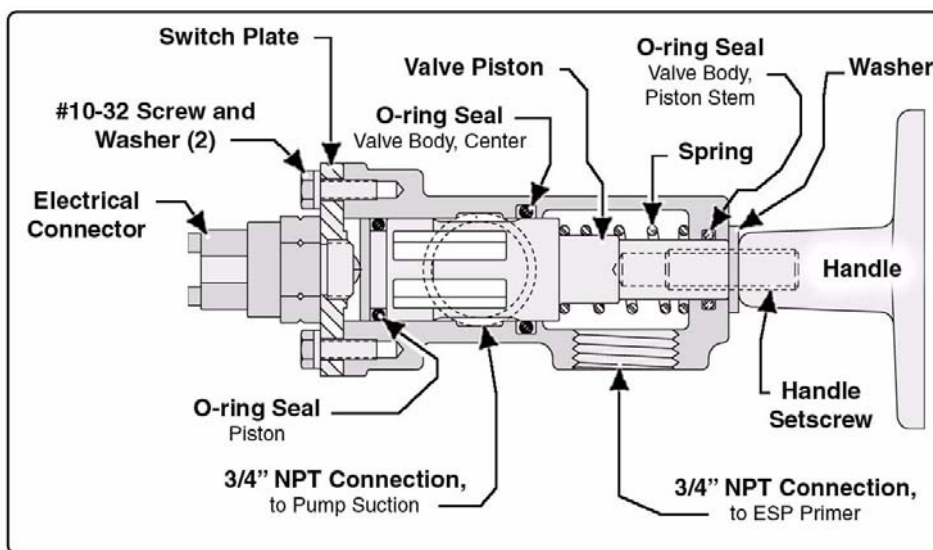

Figure 5-4: Hale PVG Parts Overview
The Hale PVG is designed to provide trouble free service with a minimum of preventive maintenance. Over time, performance degradation could result from a worn O-ring seals, causing leaks, a weakened spring, or a failed electrical switch. (See Figure 5-4: "Hale PVG Parts Overview.")
6. Remove the PVG valve handle from the valve setscrew stem. (See Figure 5-4: "Hale PVG Parts Overview" on page 42.)
- If the switch is removed from the plate, install the plate with the counterbore side facing the housing mounting bosses. (See Figure 5-4: "Hale PVG Parts Overview" on page 42.)